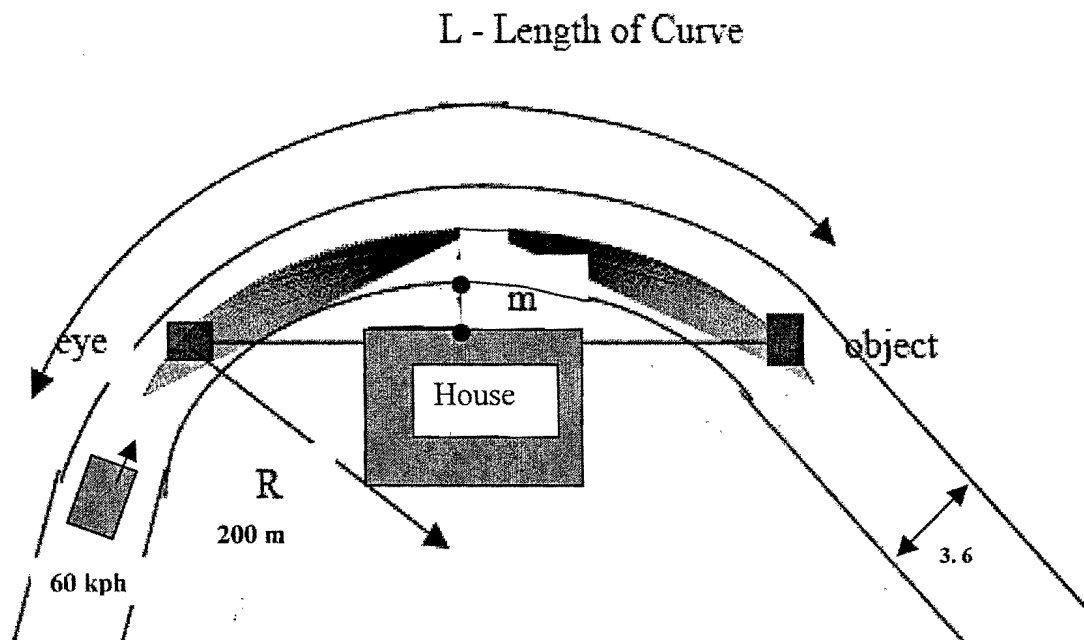

Figure. 3 Location of an Object Near a Horizontal Curve
- (b). Figure.3 showed a flat horizontal curve on a 2-lane highway with a 200 m radius, 3.6 m lanes and 40° central angle.